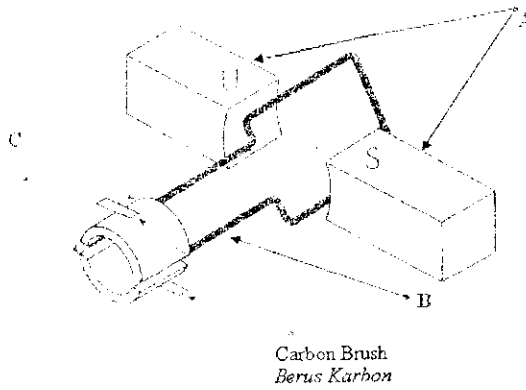

Figure 5
13. Figure 5 shows a simple generator.